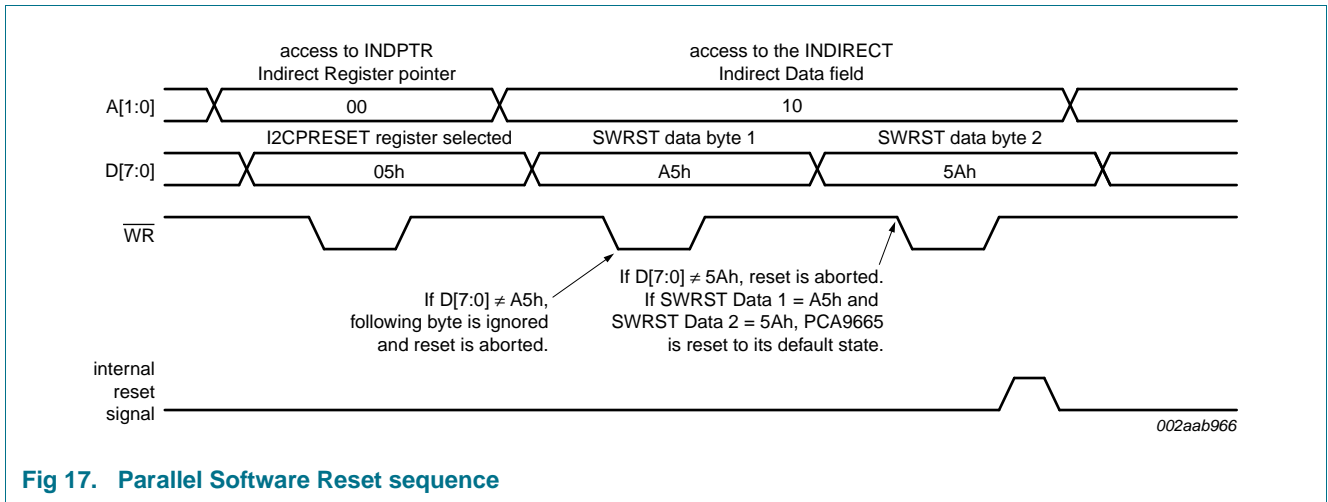

Fig 17. Parallel Software Reset sequence
- By using the Parallel Software Reset sequence as described in Figure 17.